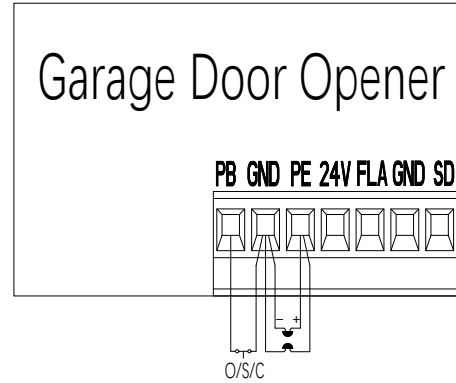
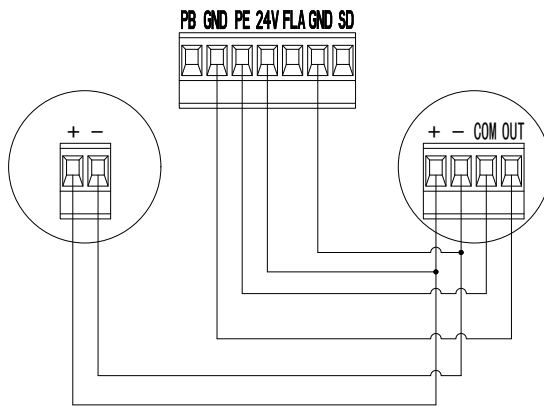

Figure 1
Figure 2
The O/S/C facility can be used for an external push button switch to operate the opener. The switch must have voltage free normally open NC contacts (Fig. 1)
Photo beam connection (optional) – Fig.1, Fig.2
Switch control connection (optional) – Fig.1
1. The O/S/C interfaces available.(Fig.1)